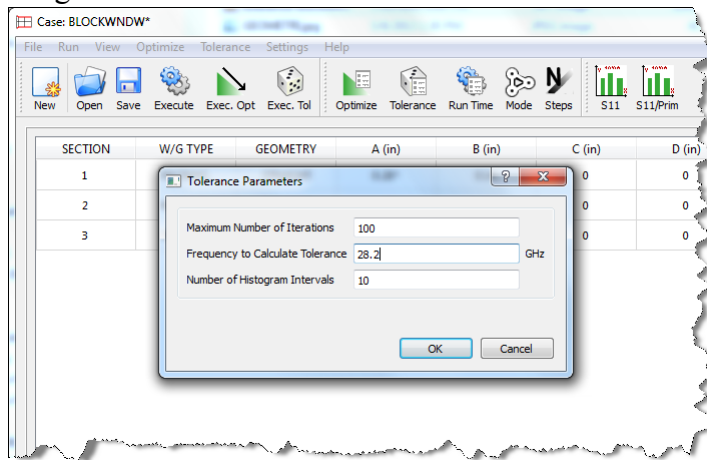

FIGURE 35. Tolerance parameters for Block Window example
6. From the *Tolerance* pulldown menu at the top of the main GUI screen, select the *Tolerance Parameters* option. The window shown in Figure 35 should appear. Leave the number of iterations at the default value of 100. The center
frequency of the device is approximately 28.2 GHz, so we will analyze the performance at this frequency. The *Tolerance Parameters* window should appear as shown in Figure 35.